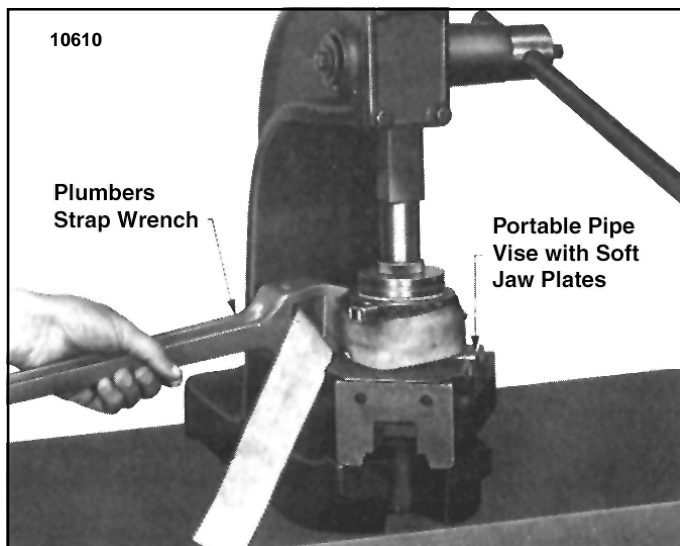

Figure 5-10. Winding Load Brake Gear using a Strap Wrench to set up Load Brake Spring
- (4) The brake spring must be pre-loaded at assembly to a torque of 10 to 14 lb.-ft. This is accomplished using a plumber's strap wrench to wind (rotate) load brake gear to set up spring (Figure 5-10) while pressing brake flange into place using an arbor press. Clamp pinion end of shaft into a portable vise to keep brake from rotating in press. Use brass or copper jaw plates on vise to protect pinion gear teeth. Wind gear counterclockwise (viewing brake from flange end) with strap wrench and press down on flange until snap ring groove in shaft is exposed allowing snap ring to be installed. Use extreme care not to over wind spring as yield will result and final spring torque will be reduced. Do not wind gear beyond point necessary to install snap ring in groove.